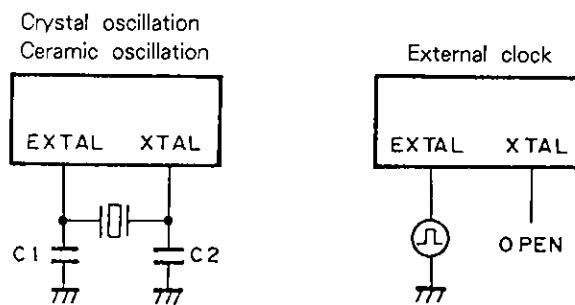

Fig. 2 Clock applying condition
**Note**) When adjusting the frequency accurately, there may be cases in which they may differ from Fig. 2.